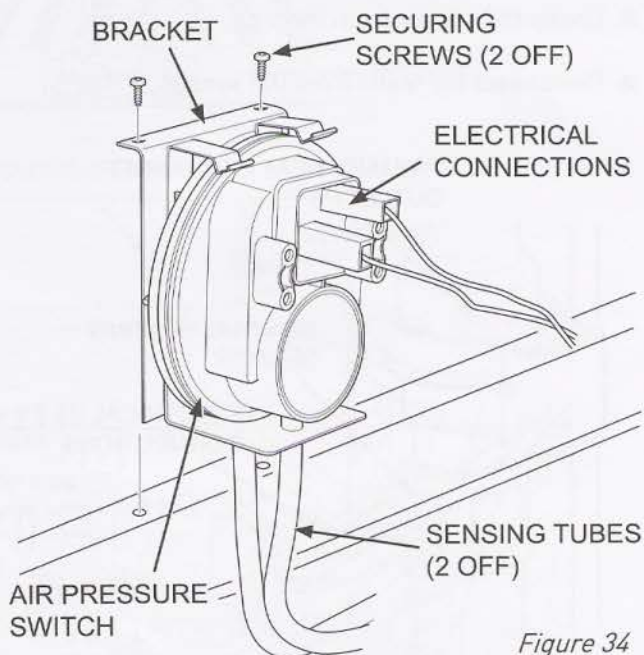

Figure 34
- The air pressure switch is located on the top of the expansion vessel. (Figure 34)